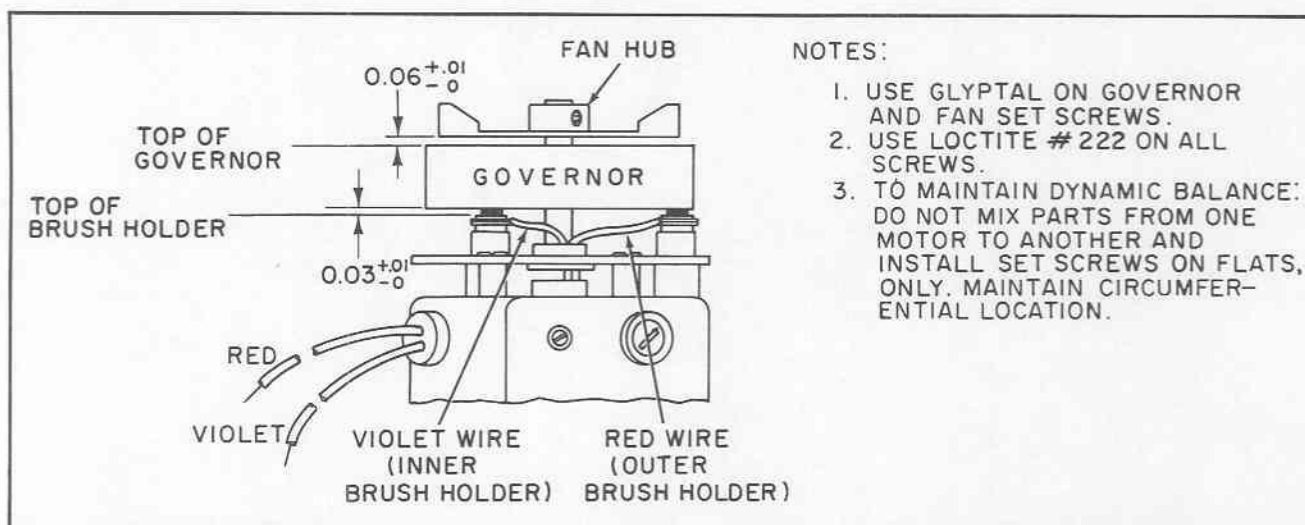

Figure 5-12. Governor Brush Assembly Details
- i. Turn brush plate assembly so that outer and inner brushes are oriented as shown in Figure 5-12.